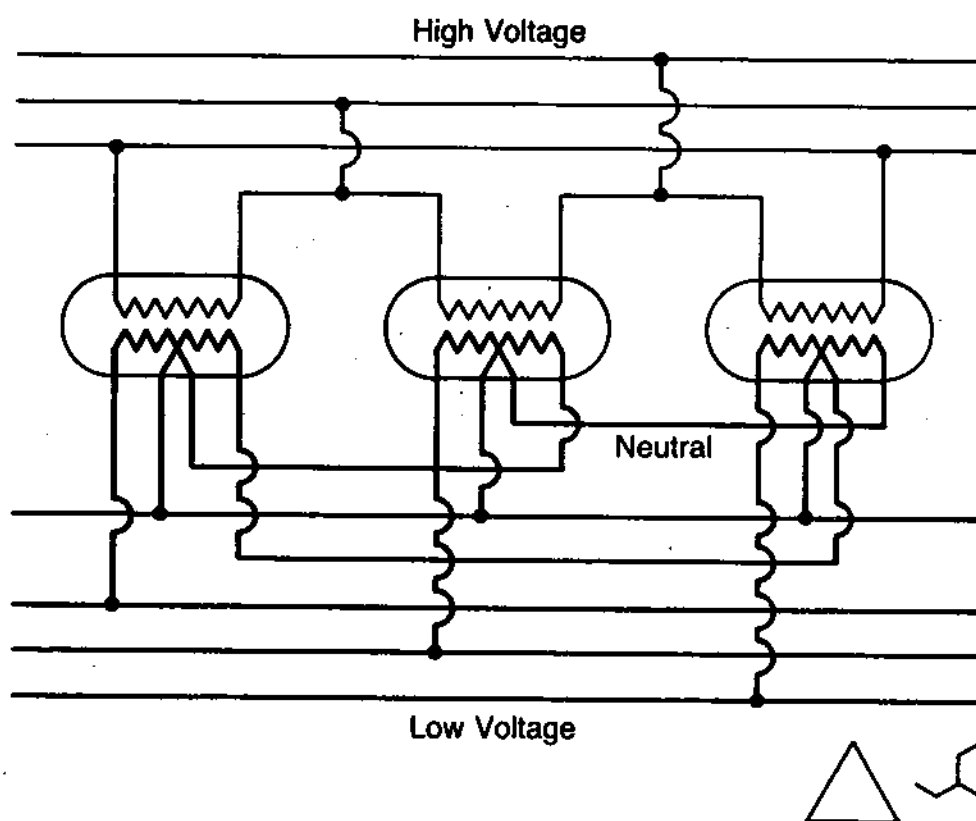

Fig. 37 – Three-Phase Secondary Star, Interconnected
b. Three-Phase, Secondary Wye Interconnected. See Figure 37. The primary side of this group may be connected in either wye or delta. Each half of the secondary winding of each transformer has a voltage of 57.7 percent of the interconnected wye voltage. A bank of transformers designed for connection in this manner must have a capacity $7\frac{1}{2}$ percent greater than the kVA to be transformed.